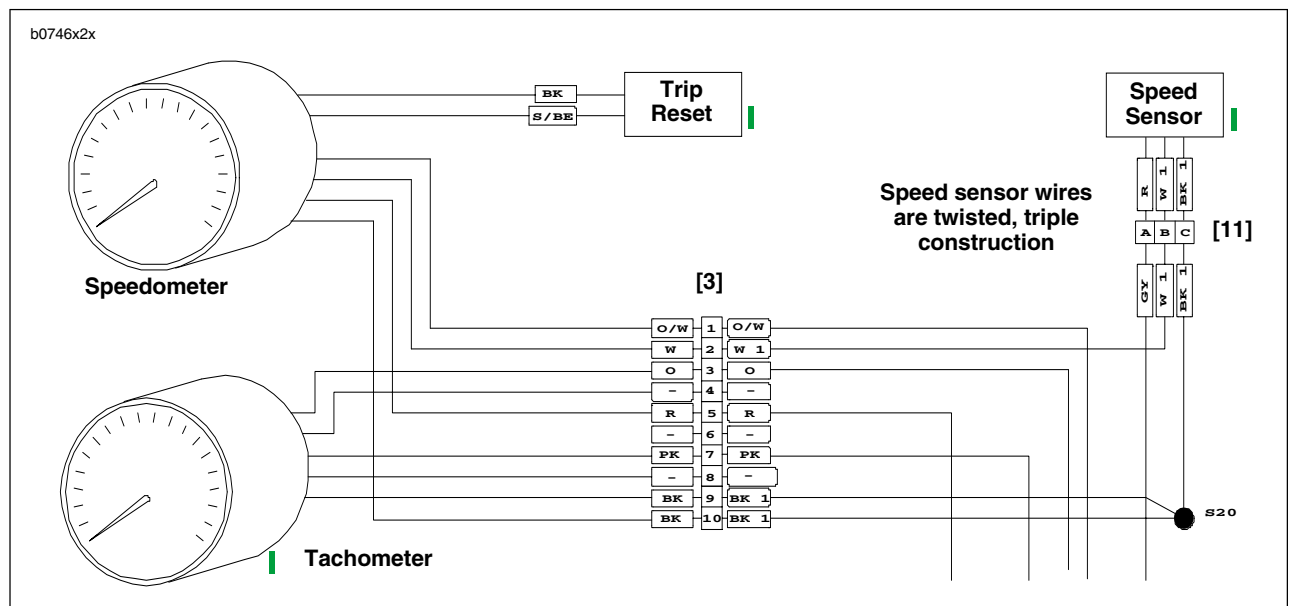

Figure 7-79. Speedometer Sensor Wiring
3. See Figure 7-79. Disconnect 3-place Deutsch connector [11] for speedometer sensor (located under seat near battery negative terminal).